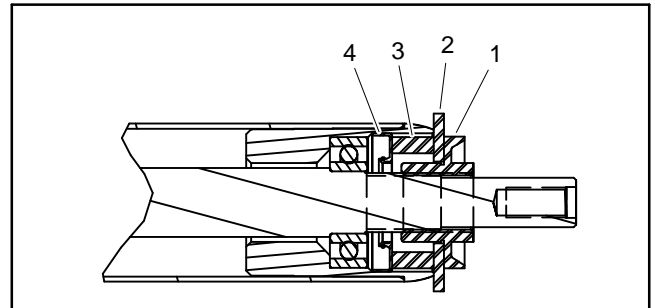

Figure 37
8. Position an assembly spacer and yellow assembly washer (see Special Tools) on each end of roller shaft (Fig. 37). Thread nut onto each end of shaft.